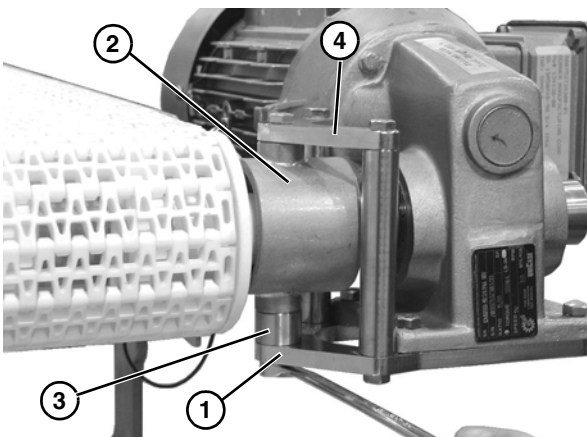

Figure 61
2. Remove the lower gearhead mounting bar (**Figure 61, item 1**) from the motor mounting bracket (**Figure 61, item 2**). Remove spacer (**Figure 61, item 3**).
3. Remove the upper gearhead mounting bar (**Figure 61, item 4**) from the motor mounting bracket (**Figure 61, item 2**).